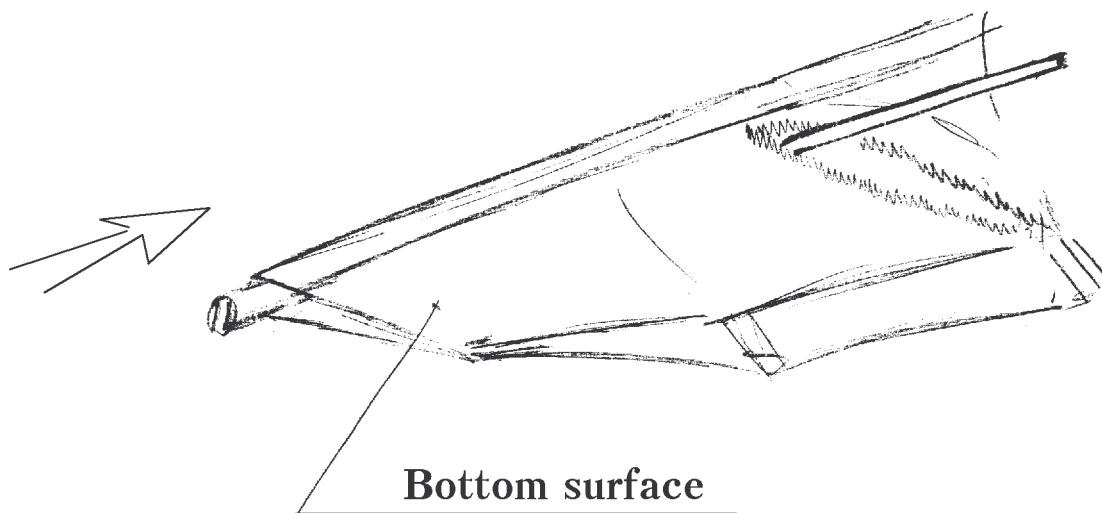

Fig. 1
2.1.4. While installing the leading edge tubes into the sail, place the washout tips facing forward toward the nose of the wing and along the leading edge tubes (Fig.1). Note: put washout tips outside the sail, through zipper holes. Tighten the sail along the leading edge and put the sail mount webbing into the slot in the end cap.